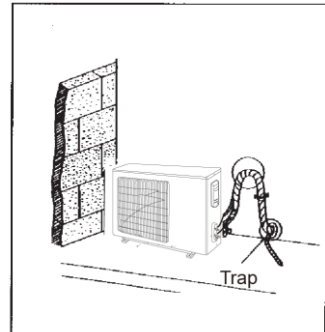

Fig. 4.16
- (2). If the outdoor unit is installed higher than the indoor unit (See Fig. 4.16)